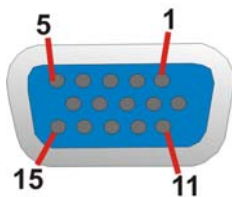

Figure 3-25: VGA Connector
- CN Pinouts:** See **Figure 3-25** and **Table 3-21**